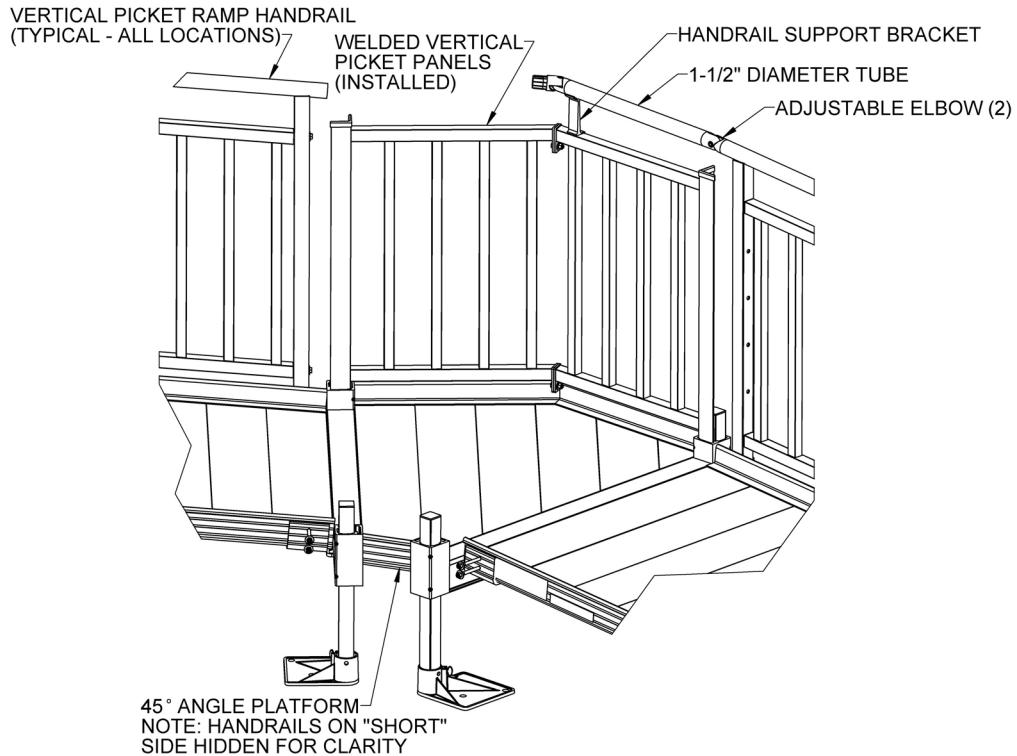

FIG. 4.21
4.6.21. Install an adjustable elbow in the ramp handrail closest to the right-hand Vertical Picket panel and a 1-1/2" diameter handrail tube to this elbow. Set the Handrail Support Bracket so it is centered over the picket shown and set the 1-1/2" diameter handrail tube in the saddle of the bracket (but do not attach), then trim the handrail tube so that a second adjustable elbow will align (approximately) with the split between the Vertical Picket panels (FIG. 4.21). The procedure for installing the 1-1/2" diameter handrail tubes and adjustable elbows is the same as installing the closure top rail.